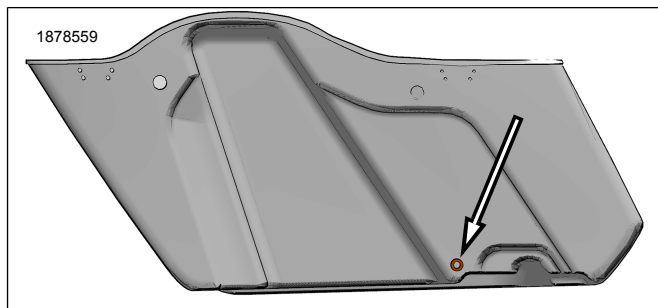

Figure 4. Saddlebag Lower Hole Drill Location
2. See Figure 4. Drill lower saddlebag wire pass-through.